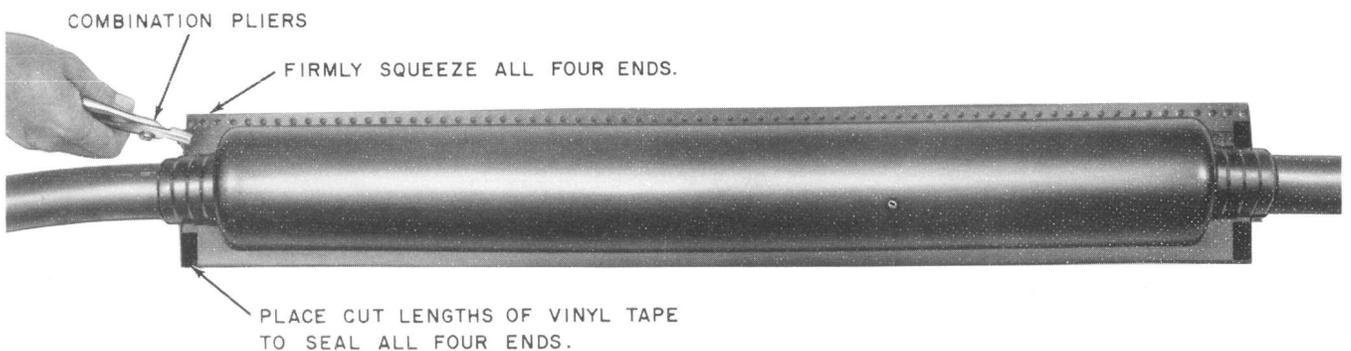

Fig. 11—Sealing Ends
4.10 Close the closure cover. Using combination pliers, firmly squeeze the ends of the cover as illustrated in Fig. 11.